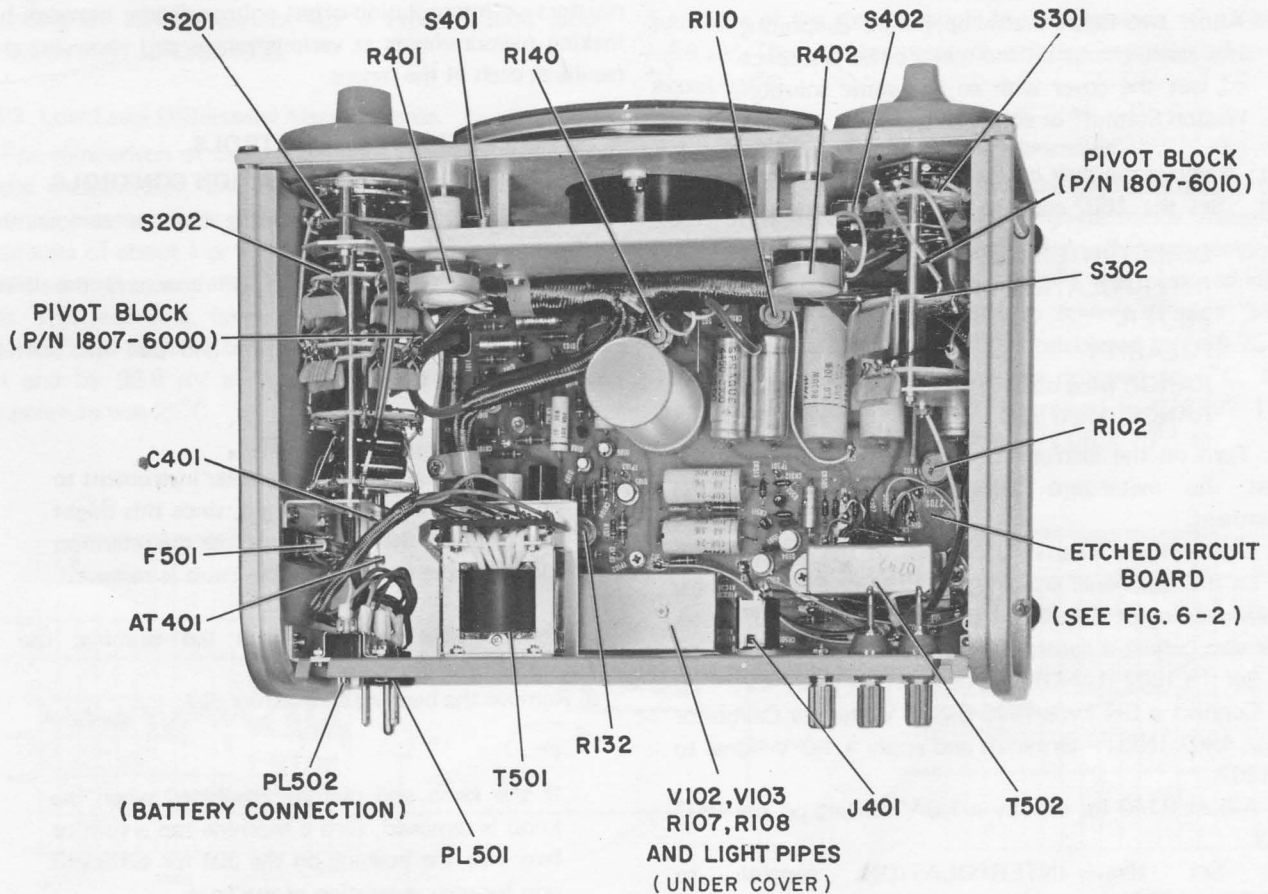
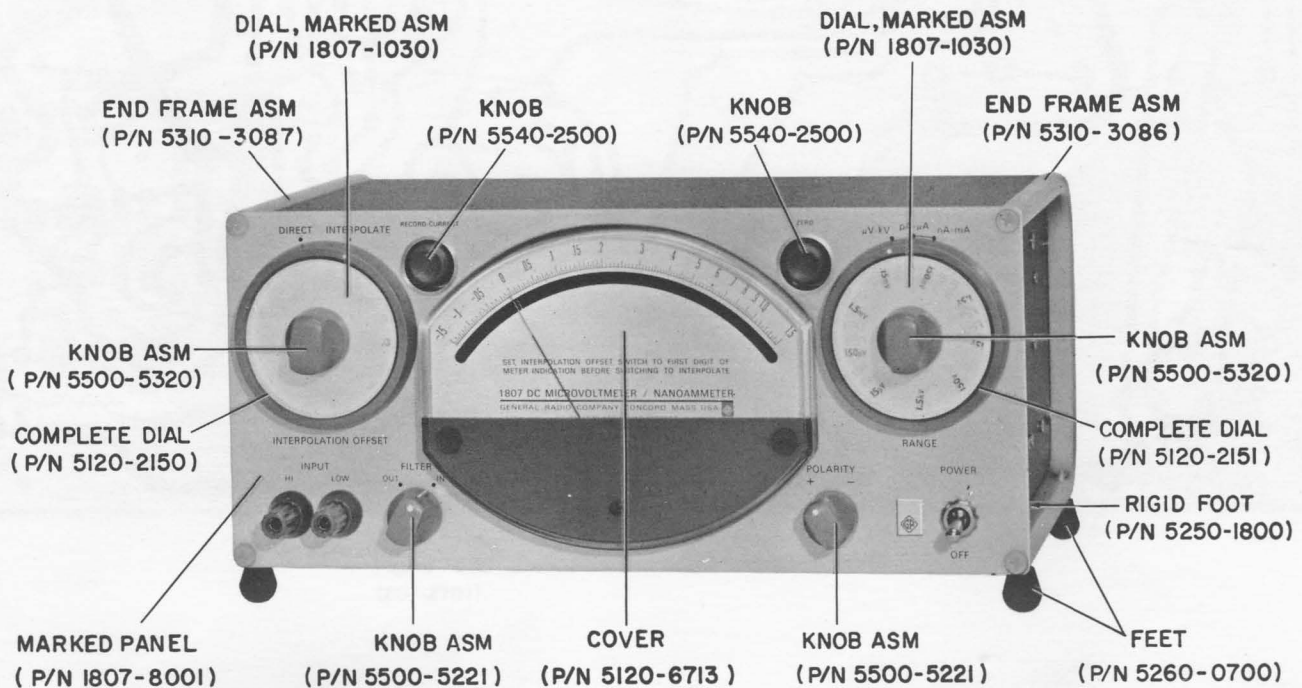

Figure 5-2. Top view of the 1807 with the dust covers removed.
Figure 6-1. Front view of the 1807, identifying parts.
Most of the parts and all internal adjustments are on one etched-circuit board in the instrument. (See Figure 5-2.) Other parts, such as the range-setting resistors (see Figure 6-5) and the interpolation-offset resistor-divider network (see Figure 6-6), are on switch wafers. A few parts (CR510, CR502, and CR514) are on the terminal board attached to transformer T501. C501 and C502 are mounted at power connector PL501, and CR401 is mounted at the rear of the meter. Table 5-4 lists the locations of parts according to reference designation groupings.
- d. Connect the Digital Voltmeter to the RECORDER jack on the rear panel and adjust R132 (see Figure 5-2) for a DVM reading of $0 \pm 300 \mu\text{V}$, noting that the 1807 meter reads zero (adjust if necessary).
The photoconductors, light-conduction pipes, and neon bulbs are under the metal cover at the rear of the instrument (see Figure 5-2). Should it be necessary to gain access to these components, swing the board down according to the instructions in paragraph 5.5. Remove the screws on the metal cover to gain access to the components; the photoconductors are mounted at the ends of the light-conduction pipe.
in the "Federal Manufacturers Code" listing. Figure 6-1 shows a front view of the Type 1807, identifying parts. Figure 5-2 shows an interior view, identifying parts.